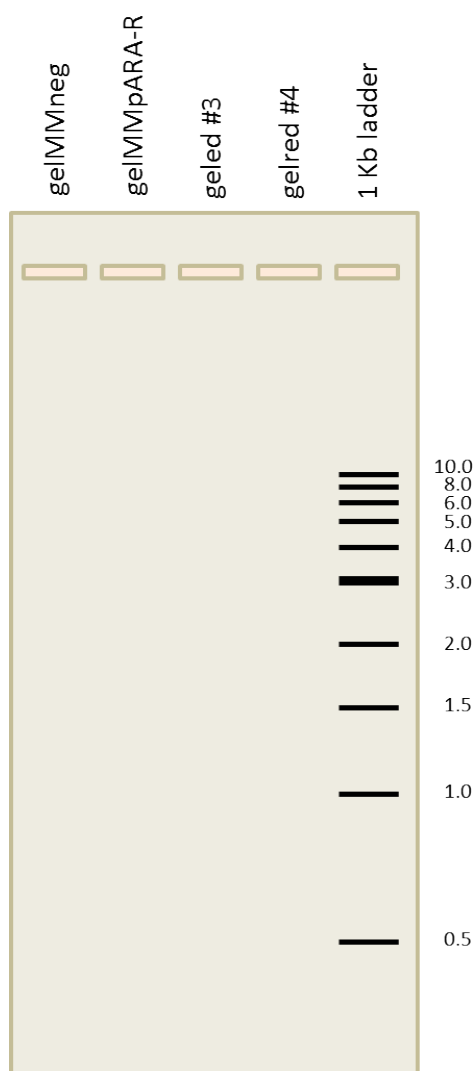

Figure 7a.3 The DNA ladder diagram.
8. Make a drawing in your notebook that shows the location of the samples in wells in the electrophoresis box. A suggested order for loading the samples into the wells is shown in Figure 7a.2.
4. The DNA ladder serves as a standard because it contains a mixture of DNA molecules of known sizes. By running your samples and the DNA ladder side-by-side in your gel, you can estimate the actual size in base pairs of unknown DNA molecules. The DNA ladder diagram below shows 10 DNA bands of known sizes. Their sizes are given in kilobase (kb) pairs. 1 kb is 1,000 base pairs (bp). The 3.0 kb band always appears brighter than the others, acting as a reference point. Below this band there should be 4 bands of DNA visible. If you have fewer bands you may have run the 500 bp (0.5 kb) band off the gel and into the buffer. On the diagram predict the positions of DNA bands produced by the possible products found in the gelMMpARA, gelMMpARA-R, gelwhite and containtubes by indicating their position on the DNA Ladder Diagram (Figure 7a.3).